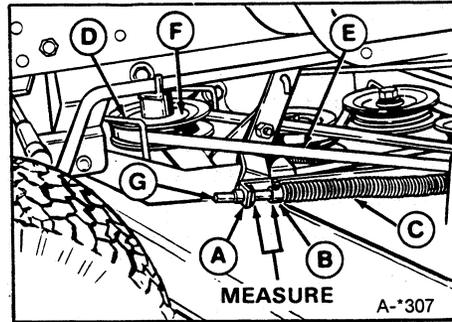

Figure 32. Mower Belt Adjustment
2. Measure the distance between the PTO rod guide (A, figure 32) and the set collar (B). For the 42" mower, the measurement should be one inch (25.4 mm).
4. Loosen the setscrew in the set collar (B). Move the rod (G) forward to increase gap, or backward to decrease gap. Retighten the setscrew.
There are two belt stops at the PTO pulley: one on the left (D, figure 32) and one on the right (figure 33). With the PTO lever engaged, measure the distance between the belt stop and belt. There should be 1/16 inch (1.5 mm) clearance between each belt stop and the belt. To adjust a belt stop, loosen its mounting capscrew, move the belt stop, and retighten the capscrew. Recheck the measurement. If a 1/16 inch clearance